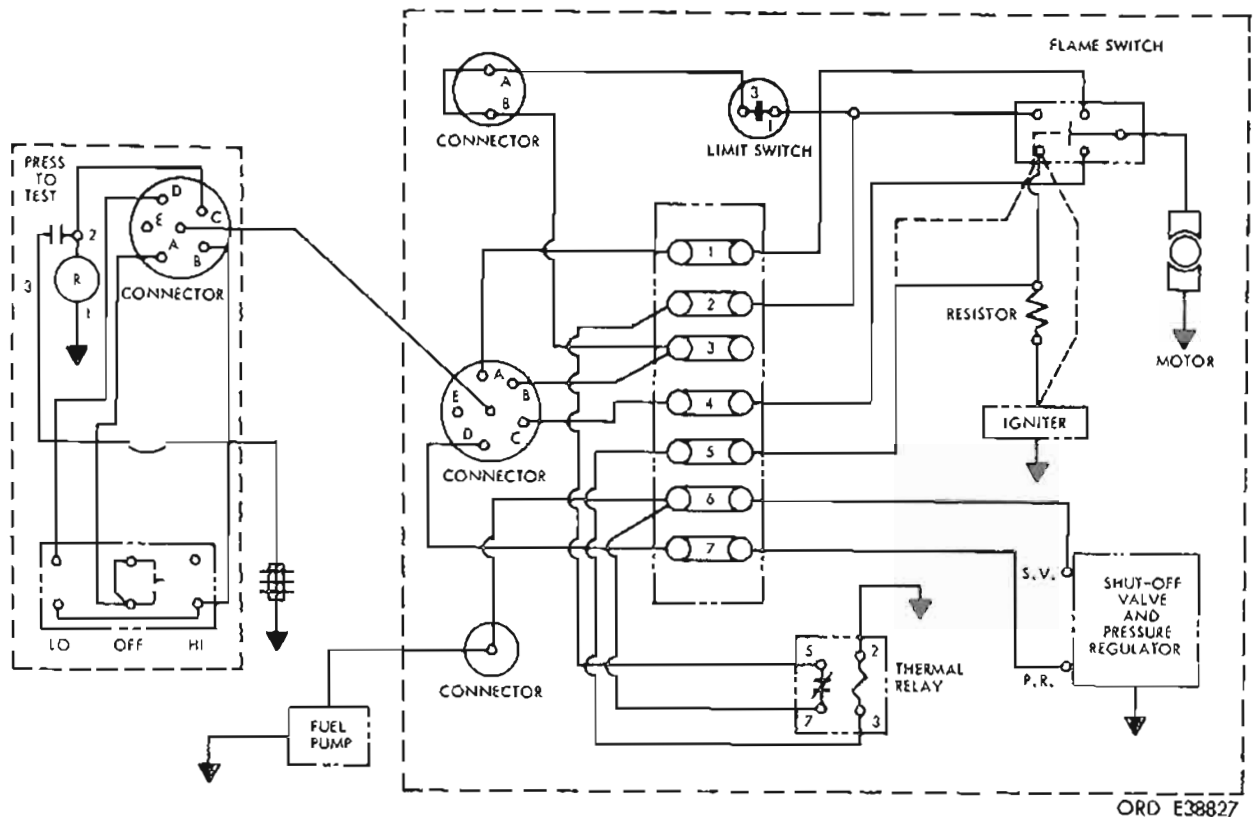
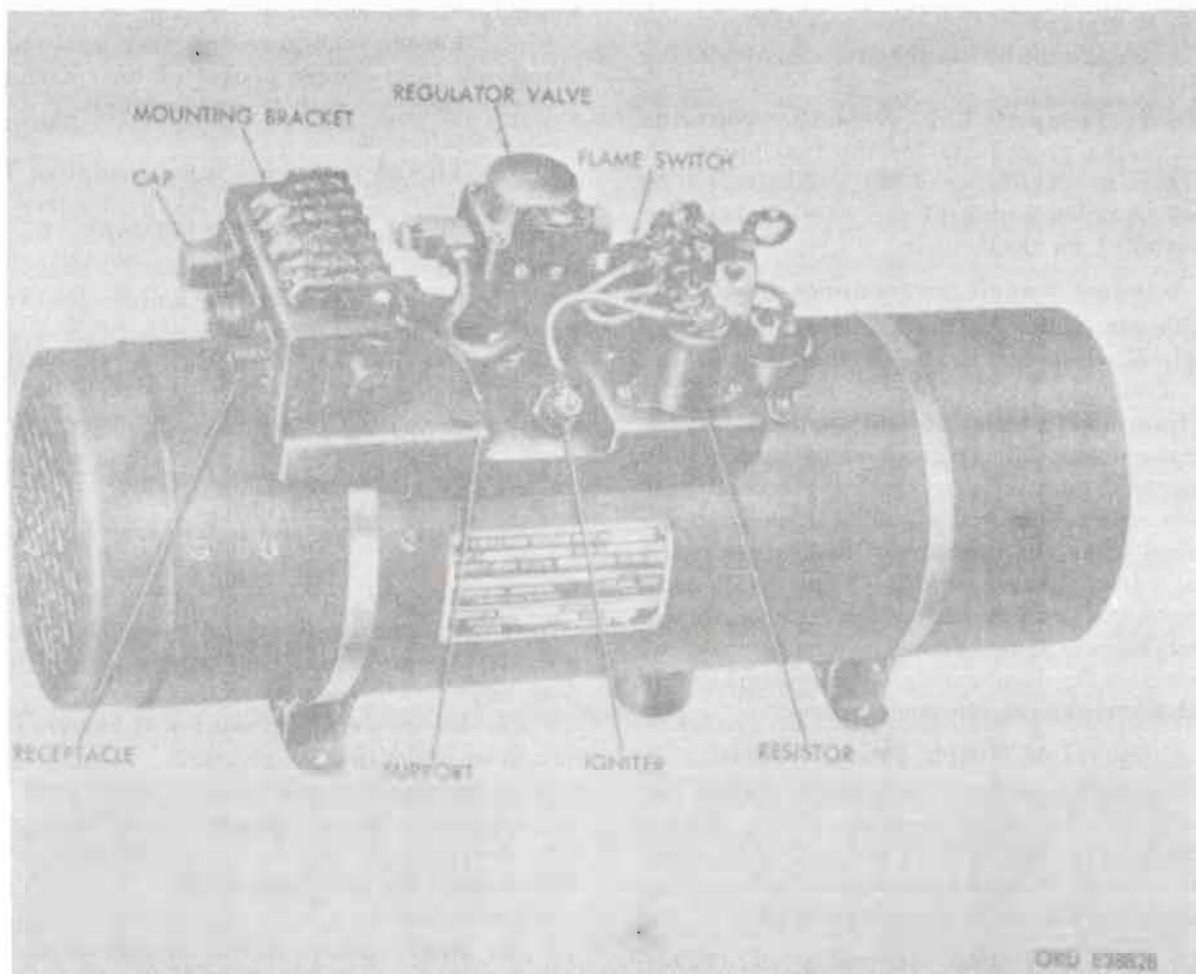

Figure 18-52. Wiring diagram (1092608 heater).
Figure 18-53. Electrical system components (1092608 heater).
(2) *Electrical system (fig. 18-52).* The heater electrical system is designed for fail-safe operation. Therefore, the heater will cease to operate in case of a failure of any circuit, mechanical part, or in the event that the heater casing overheats. The electrical system includes a remotely mounted control box assembly (directly connected to the heater controls support assembly by the cable assembly), the terminal block, flame switch, resistor, igniter assembly, thermal relay, connectors, blower, and limit switch (fig. 18-53). The three connectors of the terminal block, mounted on the controls support, are the junction for connections of the thermal relay, regulator valve, flame switch, and resistor on 24-volt units. The flame switch controls the electrical supply to the igniter, blower motor, thermal relay, and control box assembly indicator lamp. The switch is mounted in the upper part of the frame. The lower part contains a long, heat resisting metal tube which encases a quartz rod and a heat resisting metal rod. The open end of the frame is attached by a screw, which permits the adjustment of pressure exerted by the quartz and metal rods on the switch. The heat resisting metal tube extends into the combustion chamber of the heater, where it is subjected to the heat resulting from combustion. The heat causes the tube to expand and allows the quartz rod, which does not expand as much as move and release the pressure from the switch button. This changes the contact positions of the switch and removes the igniter and resistor from the circuit. When the heater is turned off, the metal tube cools and contracts, forcing the quartz rod back into position against the metal rod and the switch button. This resets the switch to its original (cold) position. The igniter assembly consists of a coil of resistance wire, partially encased in a protective metal cartridge. When the proper voltage is applied to the igniter assembly, it becomes hot enough to vaporize and ignite the fuel which has entered the burner through the fuel inlet connection and saturated the burner wick. The igniter is designed for not more than a 12-volt system. The system on this vehicle (24v) must have a resistor wired into the circuit to reduce the voltage at the igniter. The thermal relay is a safety device incorporated into the heater's electrical system. It consists of a heating element, warp lever, and a set of contacts. The thermal relay completes the circuits to the fuel pump, regulator valve solenoid shutoff coil, flame switch, and resistor. When the control switch is placed in an operating position, ignition should take place within two minutes. If ignition does not take place as specified, the thermal relay warp lever will heat up and, after 120 seconds of operation, will separate the contacts to break the circuit to the fuel pump and stop the flow
(3) *Fuel system.* Fuel is brought to the heater assembly by a fuel pump. From the fuel pump it flows to the regulator valve assembly which controls the amount of fuel as called for by the control switch setting. From the regulator valve, the fuel passes through a thin-plate orifice fuel metering tee assembly which meters the correct amount of fuel entering the burner for combustion. The fuel pump is installed in the fuel system and is electrically connected to the heater's operating circuits. The fuel pump supplies fuel at low pressure to the regulator valve. The pump is designed with a solenoid which, when energized, activates a hollow plunger. The stroke of the plunger is controlled by a set of interrupter points in the electrical circuit and a calibrated plunger spring. The pump is self-priming, requiring no bleeding or adjustments on first start. The regulator valve (fig. 18-53) is mounted on the heater's controls support. It is made up of two parts: The upper is a solenoid shut off valve, and the lower is a high-low pressure regulator. The pressure regulator controls the pressure of the fuel being supplied to the tee assembly for the burner. The regulator valve is electrically operated with the solenoid shutoff part connected to the heater circuit which supplies power to the fuel pump. The high-low pressure regulator is directly connected to the control switch on the control box assembly. When the solenoid shutoff valve coil is energized, it raises a valve from its seal, and allows fuel to flow into the pressure regulator section of the assembly. This pressure regulator consists of a diaphragm which is balanced by calibrated springs and actuates a needle valve by means of fuel pressure against the diaphragm. At the "high-fire" setting, there are two springs separated by an armature working with this diaphragm. These springs exert an upward force against the diaphragm. When fuel pressure against the diaphragm has reached the preset spring pressure, the needle valve shuts off the flow of fuel until the pressure has decreased. In this manner, fuel under constant pressure is provided the tee assembly for metering to the burner. At the "low-fire" setting, when the pressure regulator coil is energized by the setting of the control switch, the armature separating the two springs is held down